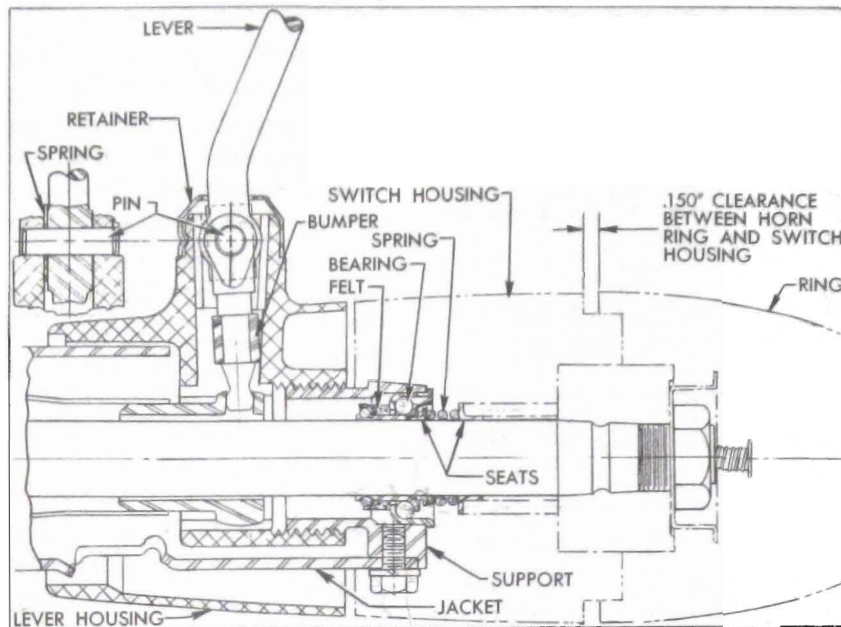

Figure 8-8—Control Lever and Adjacent Parts
3. When installing transmission control lever, install parts as shown in figure 8-8.
housing as required to provide a clearance of .150" between the operating ring and signal switch housing. See figure 8-8. Tighten jacket clamp bolt and column bracket cap bolts securely.
8. Inspect control shaft bearing in tube of gear housing and the steering shaft upper bearing in control lever housing support (fig. 8-8). Replace worn or damaged parts.